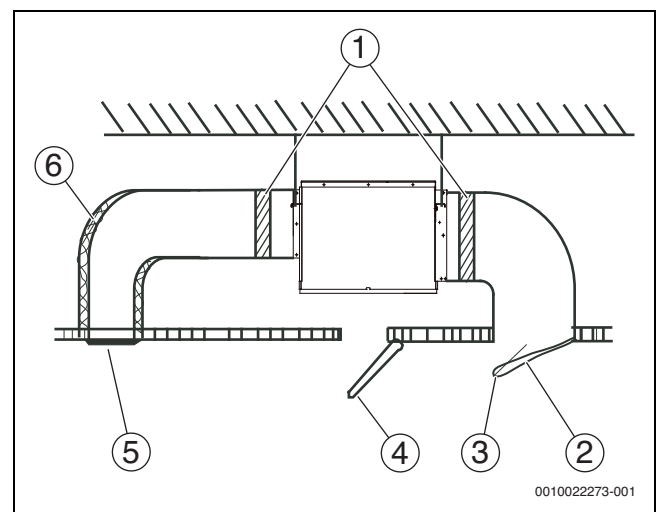
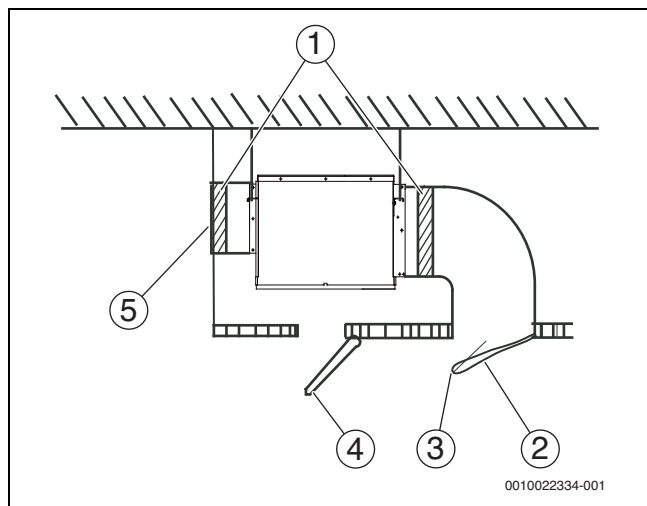

Fig. 28 Duct unit with static pressure requirements
Fig. 29 Duct unit without static pressure requirements.
6. Connect the air duct as shown in Fig. 28 or 29. On-site preparation required for all components except for the air conditioner.
Legend Fig. 28 and Fig. 29: